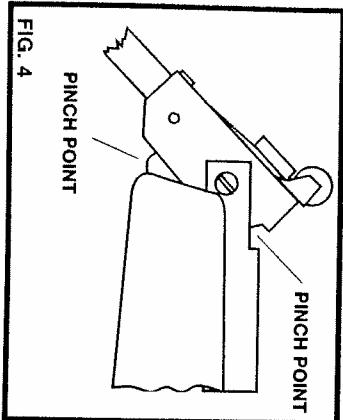

FIG. 4
**⚠ CAUTION:** Be sure to grasp the barrel firmly as you cock it to prevent it from snapping back and possibly causing injury. Also, be careful to keep fingers out of cocking mechanism when cocking or closing the barrel. (See "Pinch Points", Fig. 4.)
**⚠ CAUTION:** Be careful to keep fingers clear of cocking mechanism. (See "Pinch Points", Fig. 4.)